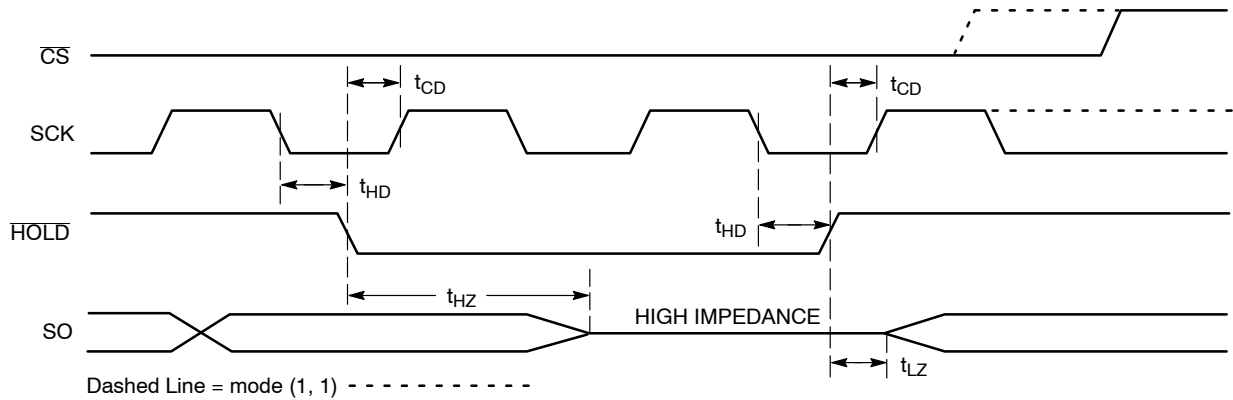

Figure 11. $\overline{\text{HOLD}}$ Timing
The $\overline{\text{HOLD}}$ input can be used to pause communication between host and CAT25640. To pause, $\overline{\text{HOLD}}$ must be taken low while SCK is low (Figure 11). During the hold condition the device must remain selected ($\overline{\text{CS}}$ low). During the pause, the data output pin (SO) is tri-stated (high impedance) and SI transitions are ignored. To resume communication, $\overline{\text{HOLD}}$ must be taken high while SCK is low.